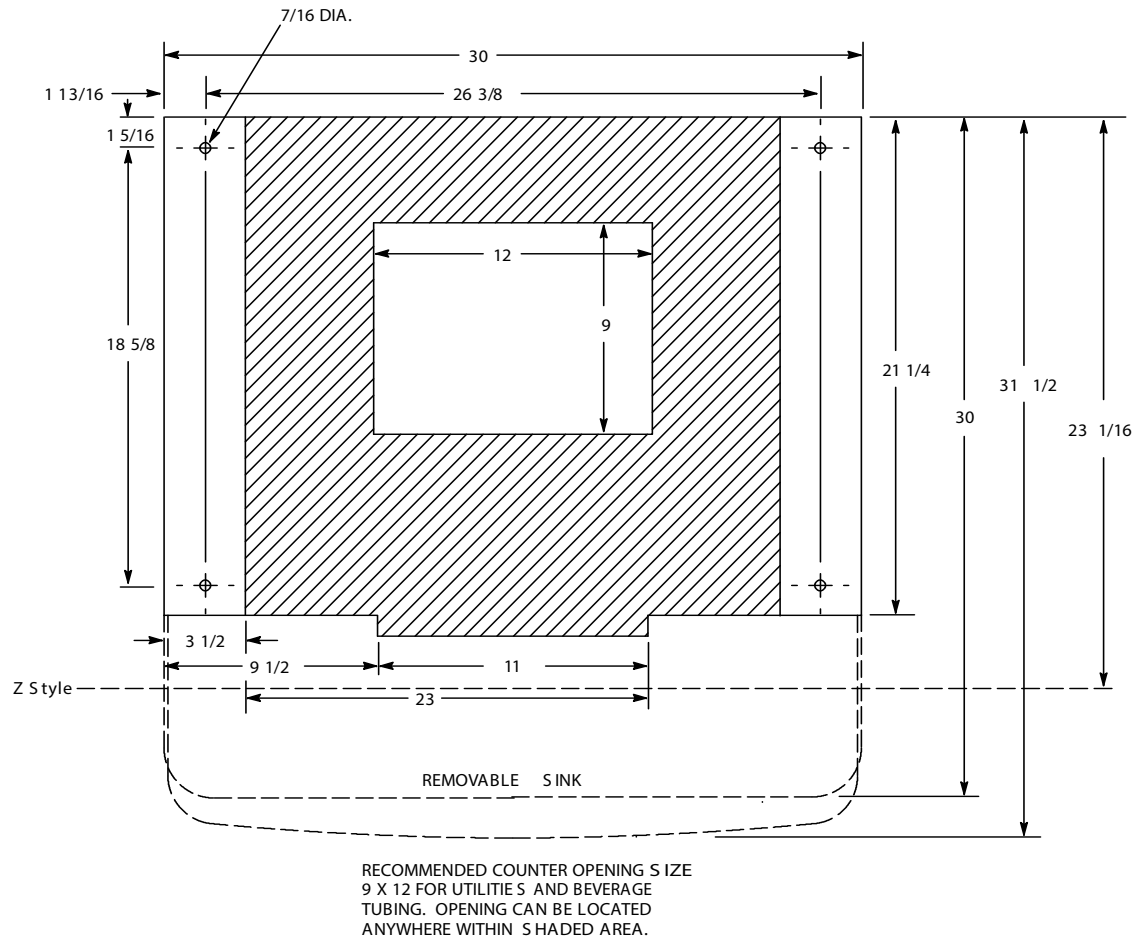

Figure 2. IDC 2XX Mounting Template
The ice dispenser must be sealed to the counter. The template drawing (see Figure 2) indicates where openings can be cut in the counter. Locate the desired position for the dispenser, then mark the outline dimensions on the counter using the template drawings. Cut openings in the counter.
3. The beverage tubes, drain tube and power cord are routed through the large opening in the bottom of the unit. See the MOUNTING TEMPLATE (See Figure 2) for locating the required clearance opening in the counter for these utility lines.